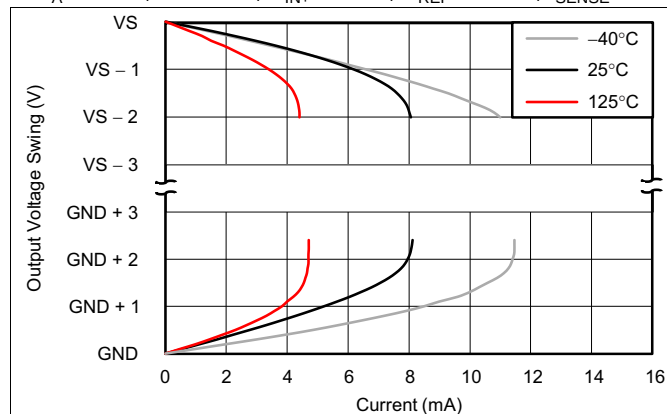

图 19. Output Voltage Swing vs Output Current
(6) System gain error includes amplifier gain error and the integrated sense resistor tolerance. System gain error does not include the stress related characteristics of the integrated sense resistor. These characteristics are described in the Shunt Resistor section of the Electrical Characteristics table.
(7) See Output Voltage Swing vs Output Current (图 19).